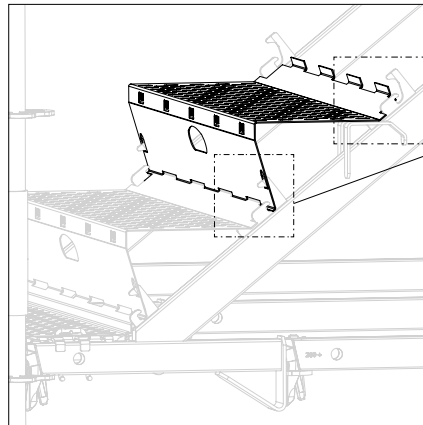

Fig. A2.06
2. Turn the step upwards. The slits support the upturned edges and connect both steps. The top of the step rests against the Stair Stringers UA. (Fig. A2.06)